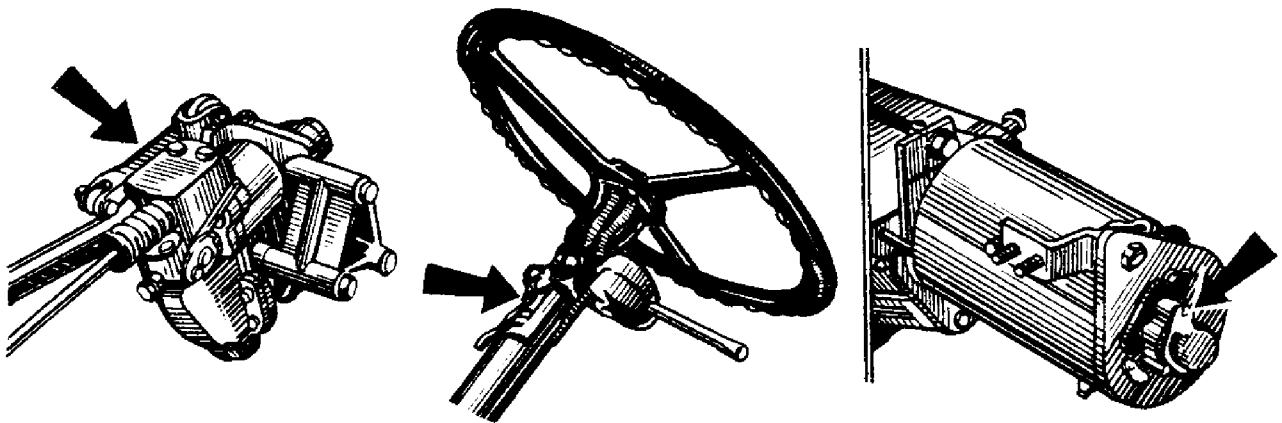

FIG.35. LUBRICATING POINTS FOR 158 OR UNATM-201 GREASE
44. Every 50,000 to 70,000-km run after disassembly, coat the friction surfaces of the brake valve with grease 158 MPTY 12H No.139-64 or UNATM-201 GOST 6267-59 (Fig.35).